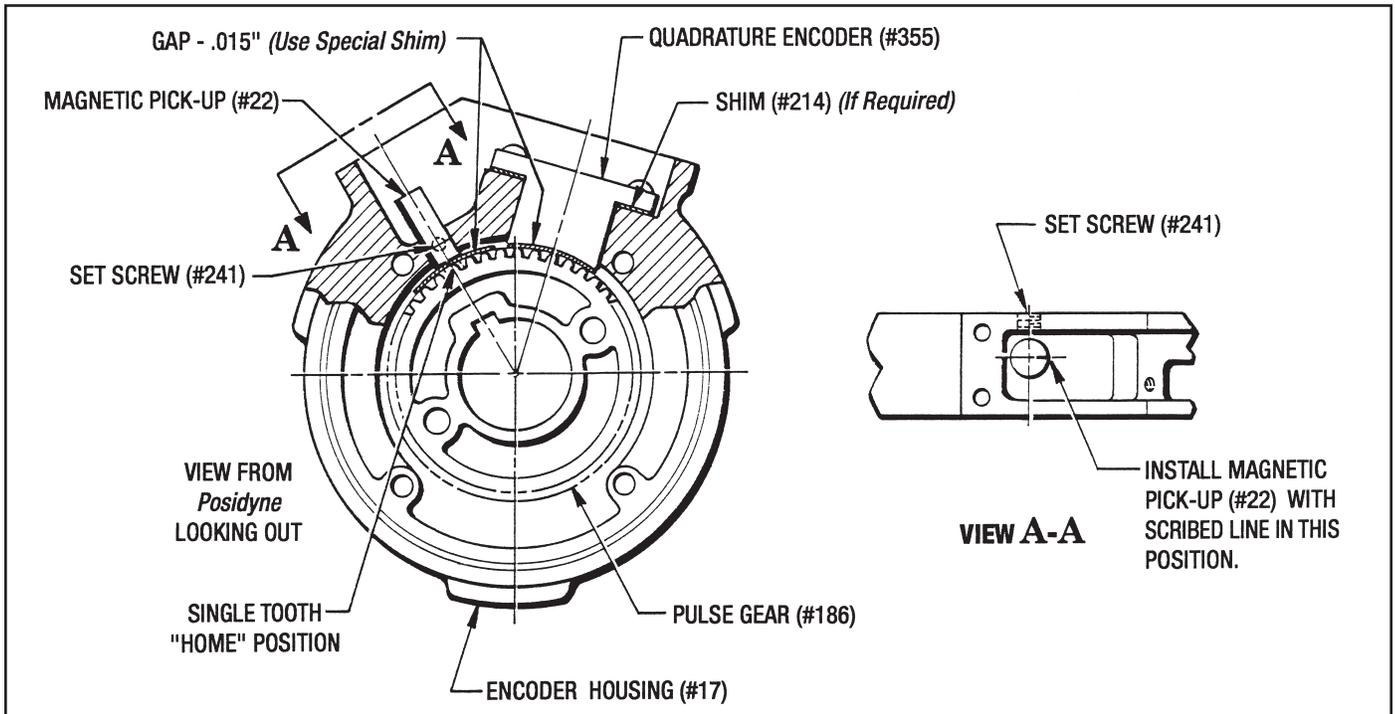

Figure 9.17 - Position Sensors Installation
3. Check the Gap between the Pulse Gear and the Quadrature Encoder (#355) with the Special .015" Shim that you made. If necessary, remove the Encoder and place Shims (#214) under the Encoder. (Usually .015" is sufficient.) Re-attach the Encoder (#355) and re-check the Gap. (See Figure 9.17)
B. MAGNETIC PICK-UP SENSOR (See Figure 9.17)